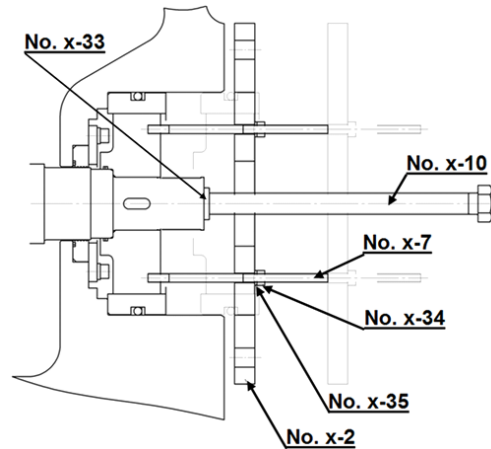

Figure 5-11 Special Tools for Balance Piston (M) of GH250S/L
If it is impossible to pull out the balance piston (M) and/or balance piston sleeve (M) only with M8 eyebolts, remove it using the special tools (refer to Table 5-9) as shown in Figure 5-11.